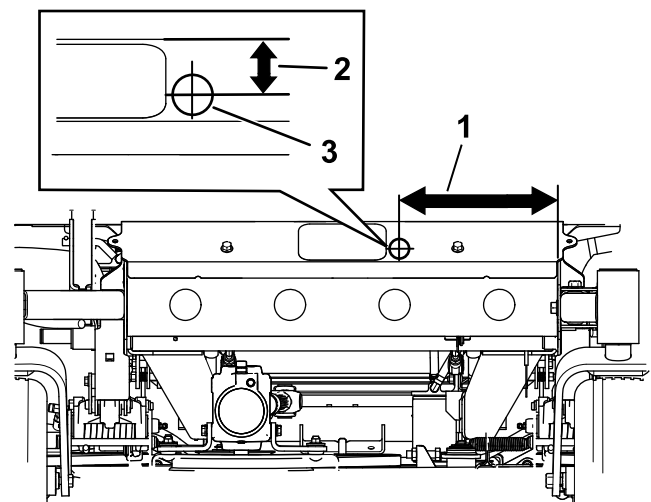

Figure 1
1. Drill the hole as shown in Figure 1.